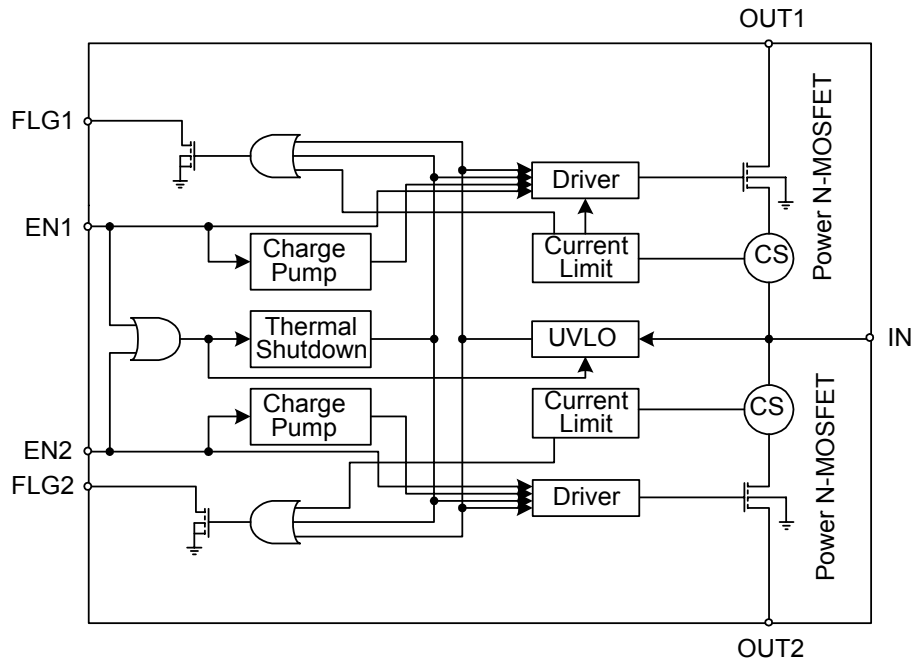

Figure 3. AP1212 Block Diagram
Figure 3 shows AP1212 block diagram. Current Sensor (CS) senses OUT current flow. Current Limit limits